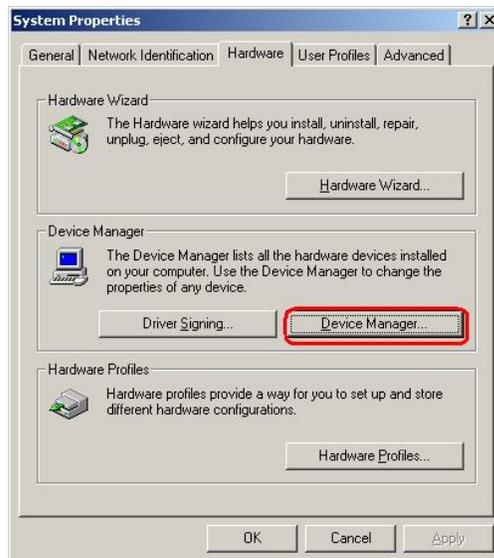

Figure 6-22: Double Click the Device Manager Tab
Step 3: Double click the **Device Manager** tab (Figure 6-22).